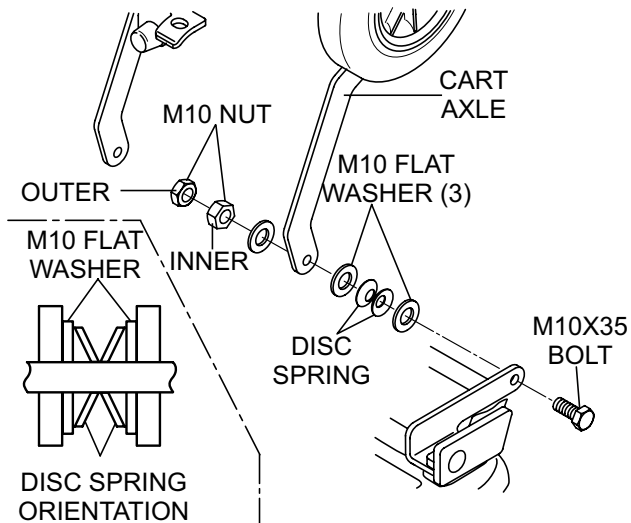

Figure 8. Cart Axle Adjustment
- There are two M10 nuts (Figure 8) on each side of the cart axle that secure it to the wheel bracket.
- Using a 17 mm socket, loosen both inner and outer M10 nuts (items 22 and 23) on one side of the cart axle.